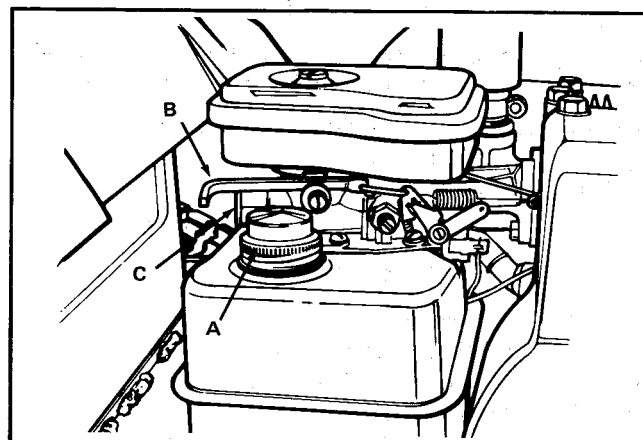

Figure 7. Starting the Engine
4. Remove fuel tank filler cap (item A, figure 7) and fill with clean, fresh leaded or non-leaded "Regular" grade automotive gasoline. Replace filler cap securely.
1. Move throttle lever (item B, figure 7) halfway between the STOP and FAST position.
2. Pull choke (item C, figure 7) fully outward.